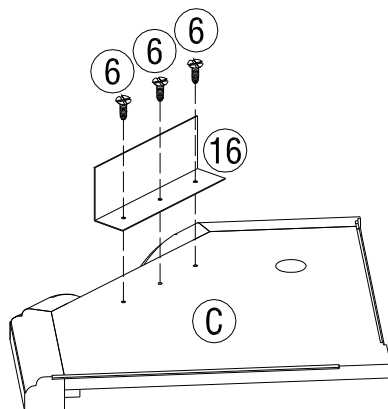

FIGURE 2
4. INSERT SMALL FLAT HEAD WOOD SCREWS (6) THROUGH METAL SHADE (16) AND TIGHTEN INTO PREDRILLED HOLES ON UNDERSIDE OF TOP PANEL (C). AS SHOWN IN FIGURE 2.